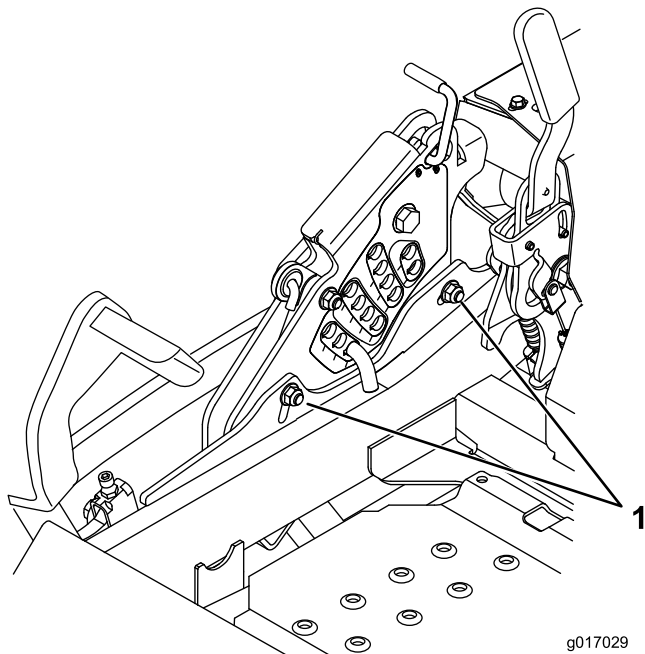

Figure 97
13. To adjust the single point system, loosen the two bolts at the bottom of the height of cut plate. Refer to Figure 97.
15. Tighten the two bolts at the bottom of the height of cut plate (Figure 97). Torque to 27-33 ft-lb (37-45 N-m).